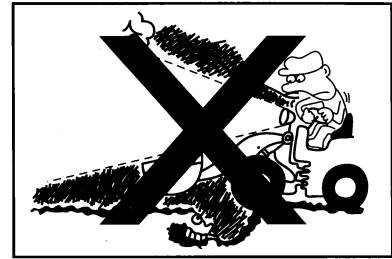

Figure1-57
- Turn on the front lamps and top lamps when working at night.(Figure 1-57)